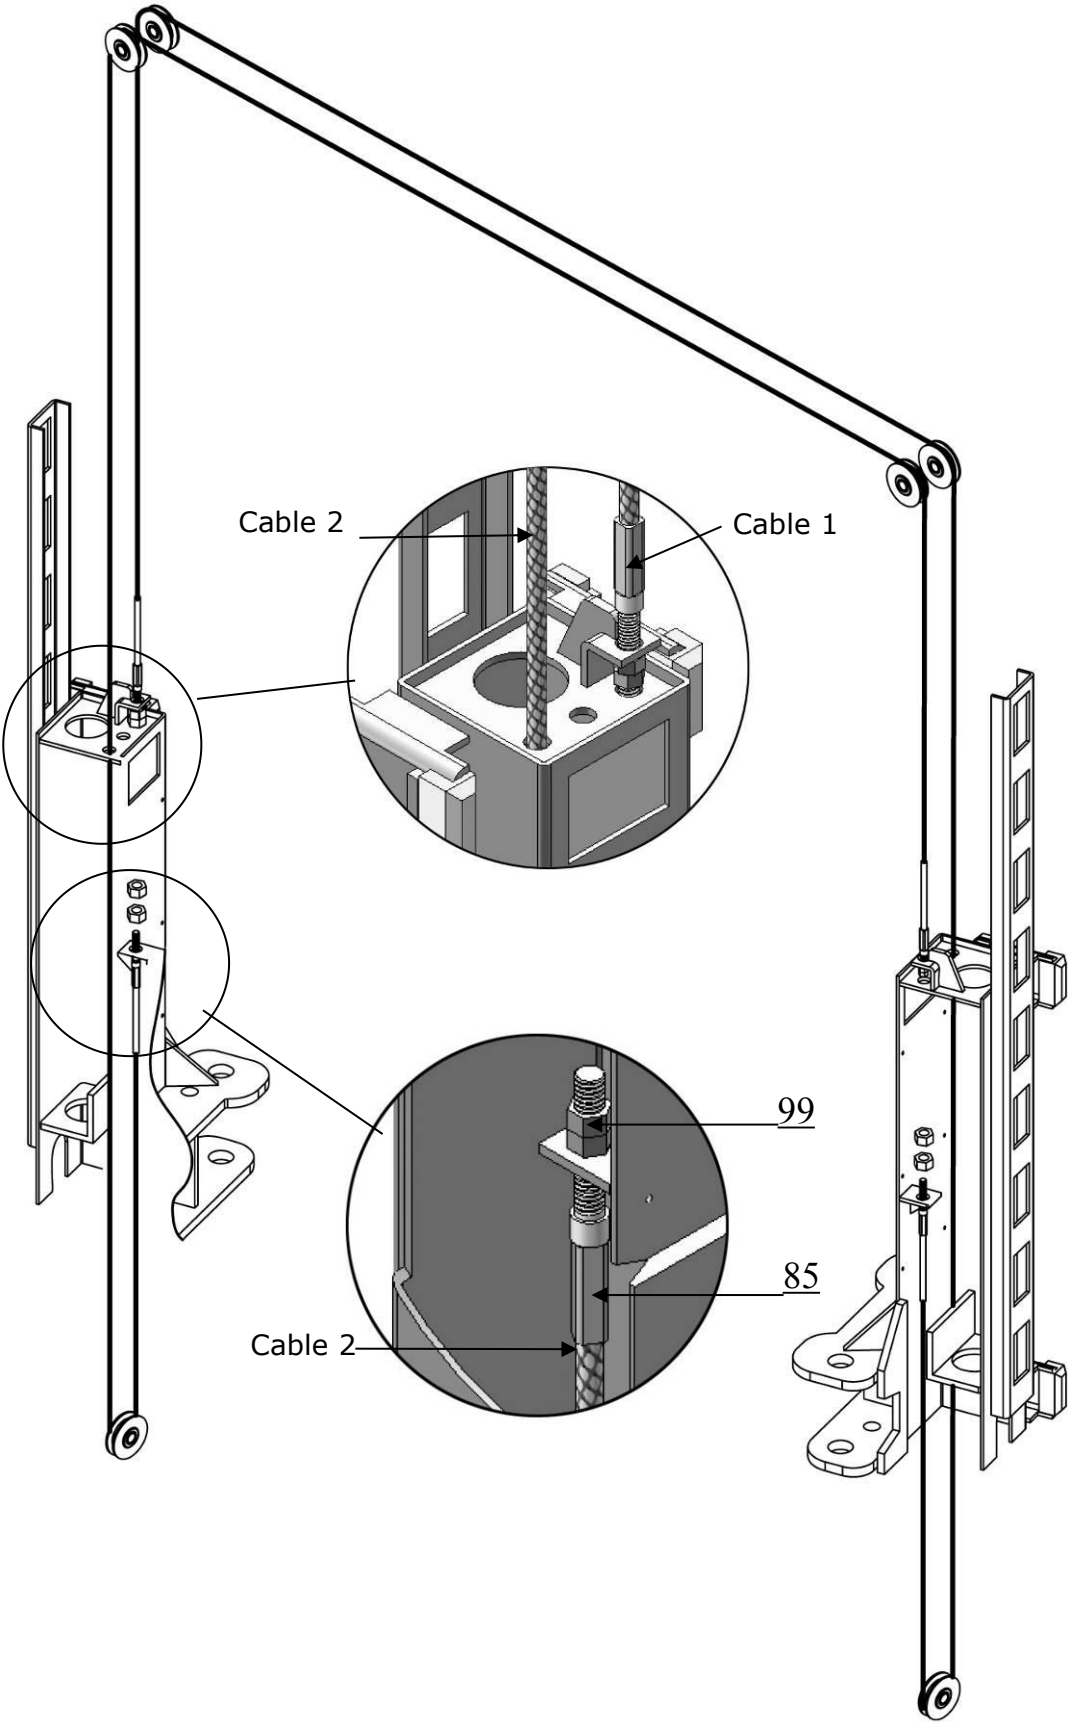

Fig. 28
2.2 Cable connection for high setting (See Fig. 28).